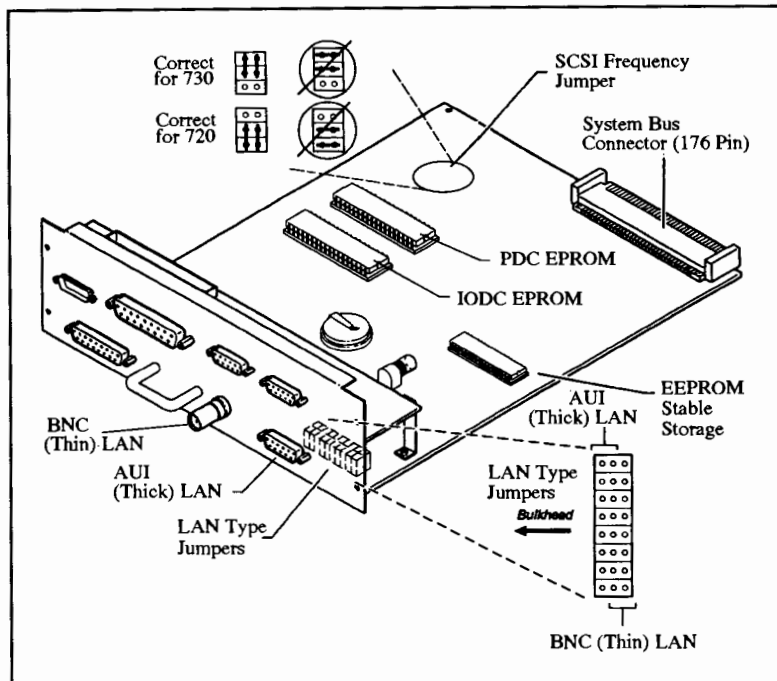

Figure 5-7. Component and Jumper Locations on the System (core I/O) Card
- 8). Configure the LAN type jumper settings on the (M730) System (core I/O) card the same as those on the (M720) System (core I/O) card. (See Figure 5-7 for the location of the LAN type jumpers.)
- 9). Configure the SCSI frequency jumper settings on the (M730) System (core I/O) card for Model 730 operation. (See Figure 5-7 for SCSI frequency jumper positions.)
- 3). Change the EISA Bus frequency jumper settings on the EISA Card Adapter as shown in Figure 5-7.
- 3). Change the LAN type jumper settings on the System (core I/O) Card as shown in Figure 5-7.
- 3). Change the SCSI frequency jumper settings on the System (core I/O) Card as shown in Figure 5-7.
- 3). Remove the PDC or IODC EPROM on the System (core I/O) Card as shown in Figure 5-7 and install a new version of the PDC or IODC EPROM into the same socket. Skip step 4.
- 3). Remove the Stable Storage EEPROM on the System (core I/O) Card as shown in Figure 5-7 and install the replacement EEPROM into the same socket on the System (core I/O) card.
- 3). Remove the fuse for the external AUI on the System (core I/O) Card as shown in Figure 5-7 and install a replacement fuse into the same socket.